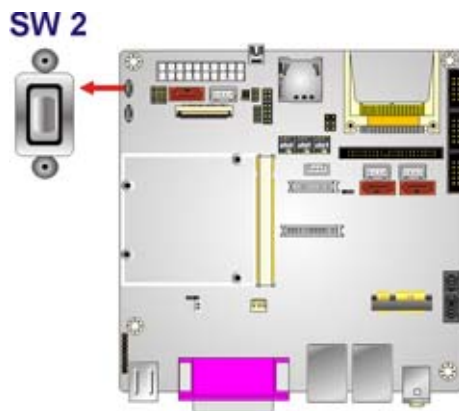

Figure 4-14: Power Button Location
- CN Location:** See Figure 4-14